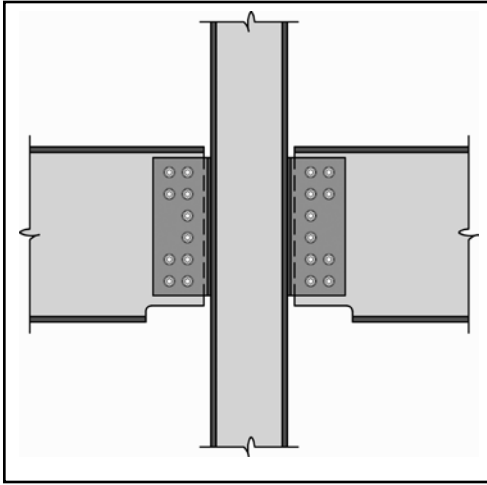

Figure 4: Connection detail of spandrel girder to column
4. Use ductile girder connections to the columns that have the ability to rotate and resist high axial loads. A suggested connection type is shown in Figure 4 with double rows of bolts in double shear. Avoid seat connections and one sided connections.